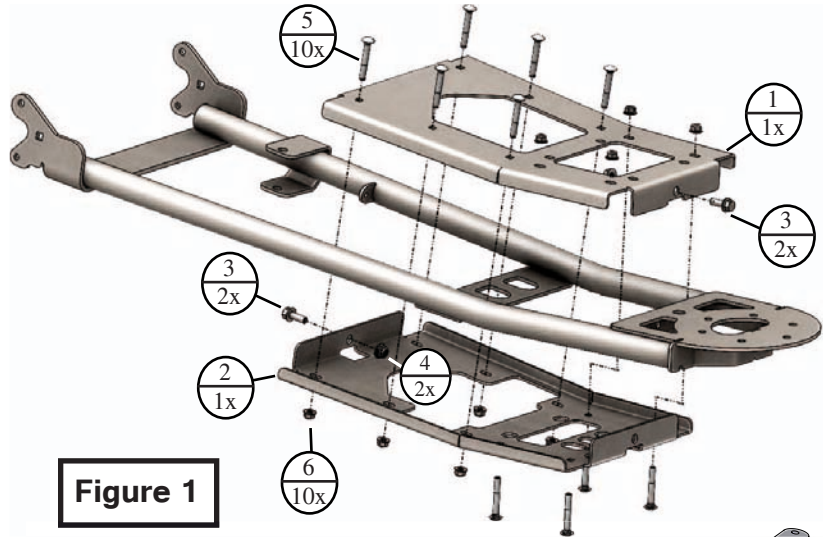

Figure 1
5. Set the push tube on its side and loosely attach the 5/16 carriage bolts to the stiffener plates. Shown in Figure 1.